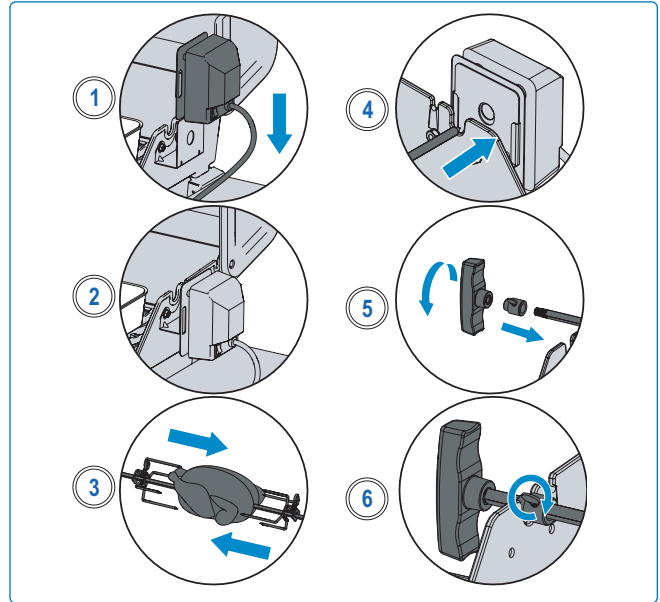

Fig. 16
5. Slide second rotisserie fork onto spit rod and push into chicken until all 3 chickens are squeezed together tightly. Tighten (**Fig 16**).